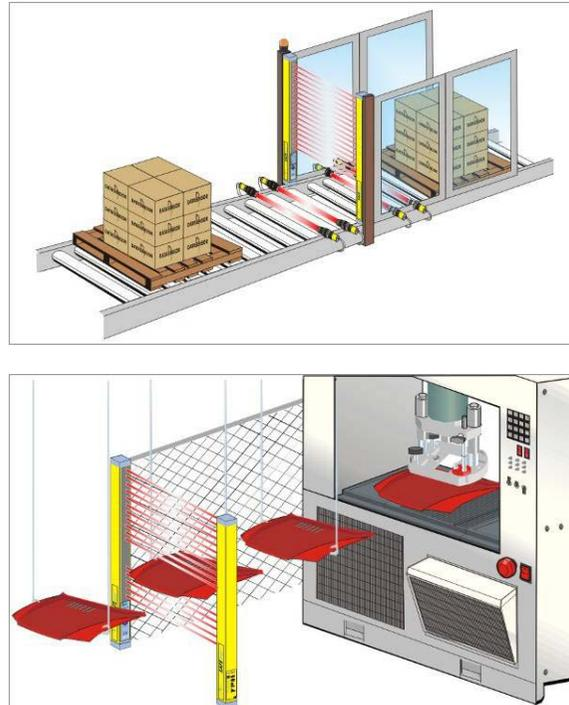

Fig. 22
- The Muting function, excludes the light curtain during functioning, maintaining active the OSSD outputs, according to particular operating requirements (Fig.22).